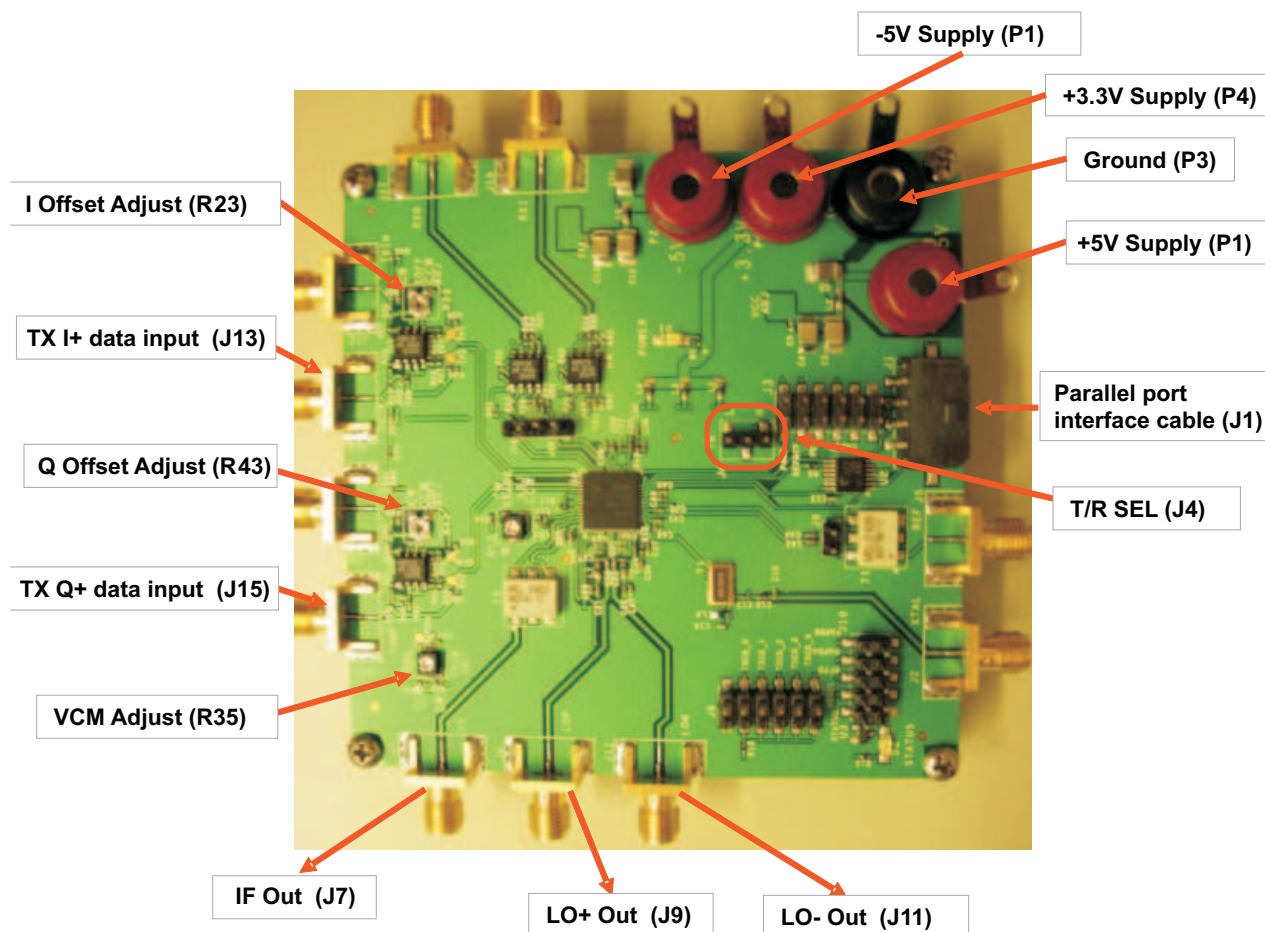

Figure 3. Connections for TX Operation With Differential Drivers
1. Connect equipment to reference board as shown in Figure 3.